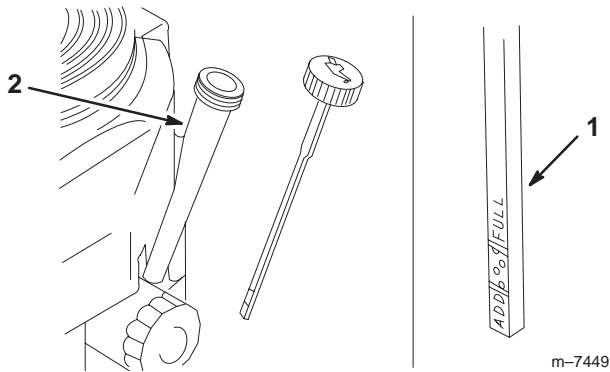

Figure 31
- Clean around the oil dipstick (Fig. 31) so that dirt cannot fall into the filler hole and damage the engine.
- Unscrew the oil dipstick and wipe the end clean (Fig. 31).
- Slide the oil dipstick fully into the filler tube, **but do not thread it onto the tube** (Fig. 31).
- Slowly pour approximately 80% of the specified oil (refer to Service Interval/Specification, page 29) into the filler cap (Fig. 31).